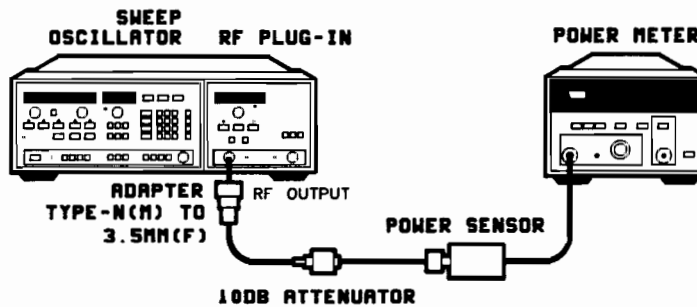

Figure 4-2. Output Amplitude Test Setup
1. Connect the equipment as shown in Figure 4-2. Do not connect the power meter/sensor to the HP 83592A power output. Allow at least one hour of warm-up.